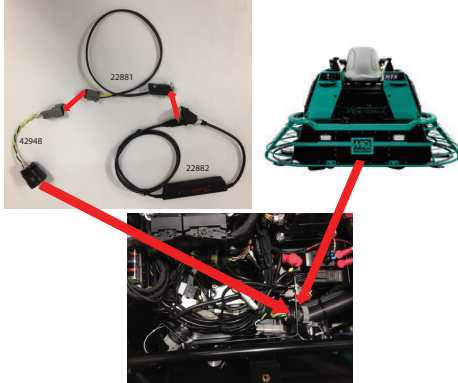

Figure 14. CAN Gateway Cable to Service Port
1. Plug the CAN Gateway cable to the trowel at the service port (Figure 14). Do not connect laptop at this time.